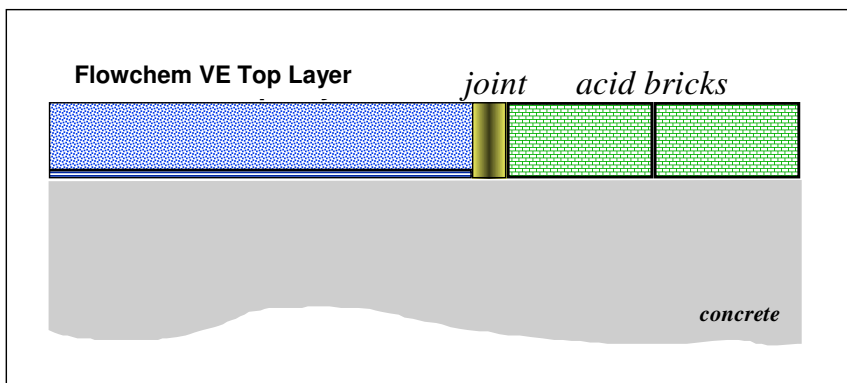

Figure 1 : Bridge between Flowchem VE System and acid bricks
6.2.2 Expansion joints (see Figures 1 and 2)